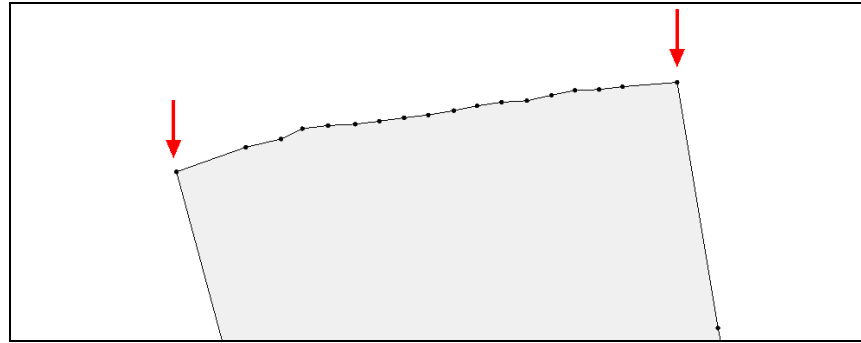

Figure 3 Vertices converted to nodes
6. **Zoom**  into the upper boundary of the coverage as shown in Figure 3.
7. Using the **Select Feature Vertex**  tool while holding down the *Shift* key, select the two corner vertices indicated in Figure 3.